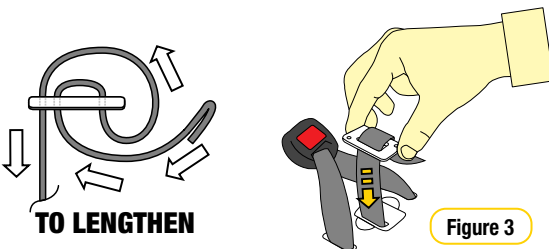

Figure 3
Step 3: Grab the central 3 bar plate and lift up to allow access to the 3 bar plate (refer Figure 3).
-To lengthen the buckle 'Push' excess webbing through the central plate (refer Figure 3).